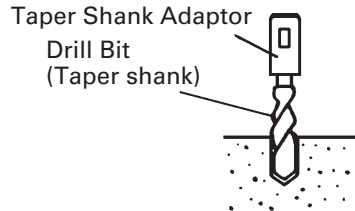
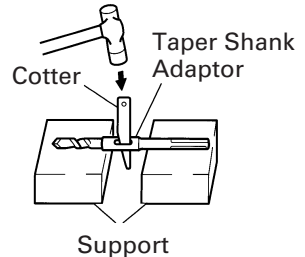

Fig. 12
Fig. 13
- (1) Install drill bit with taper shank in the taper shank adaptor. (Fig. 12)
- (2) Turn the power on and drill a base hole.
- (3) After cleaning out dust with a syringe, attach the plug to the anchor tip and drive in the anchor with a manual hammer.
- (4) To remove the drill bit with taper shank, insert a cotter into the slot of the taper shank adaptor, place supports under the Rotary Hammer and tap the cotter with a manual hammer. (Fig. 13)